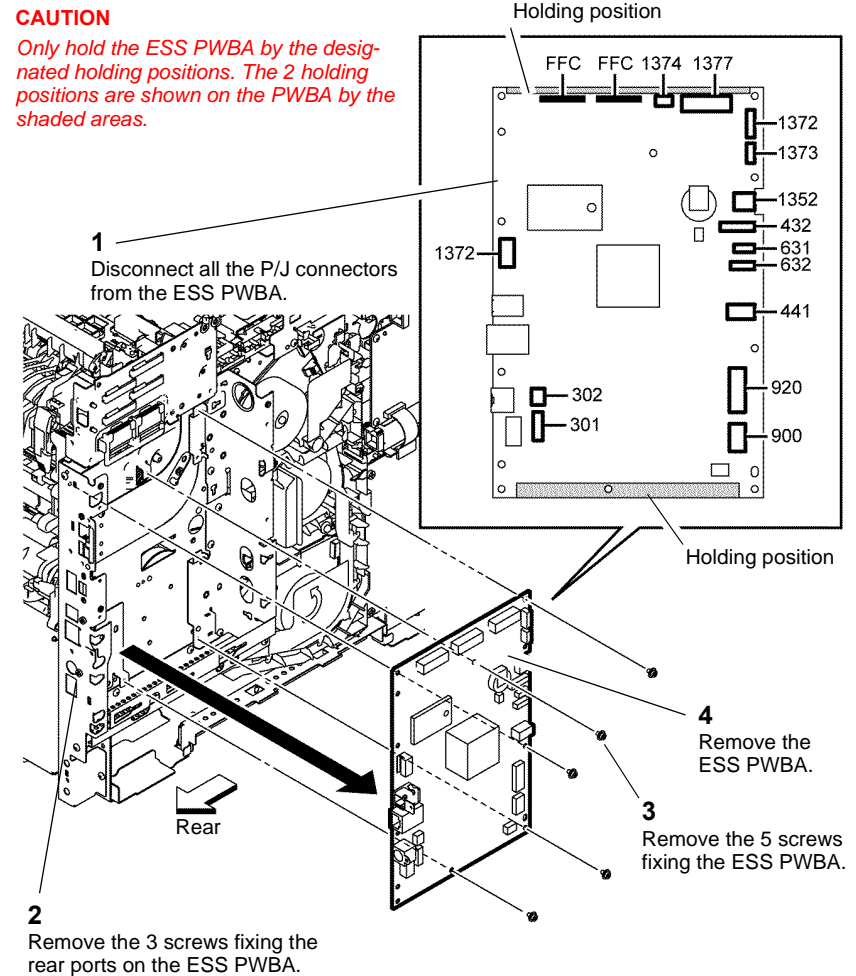

Figure 3 Remove the ESS PWBA
- Remove the ESS PWBA, Figure 3.